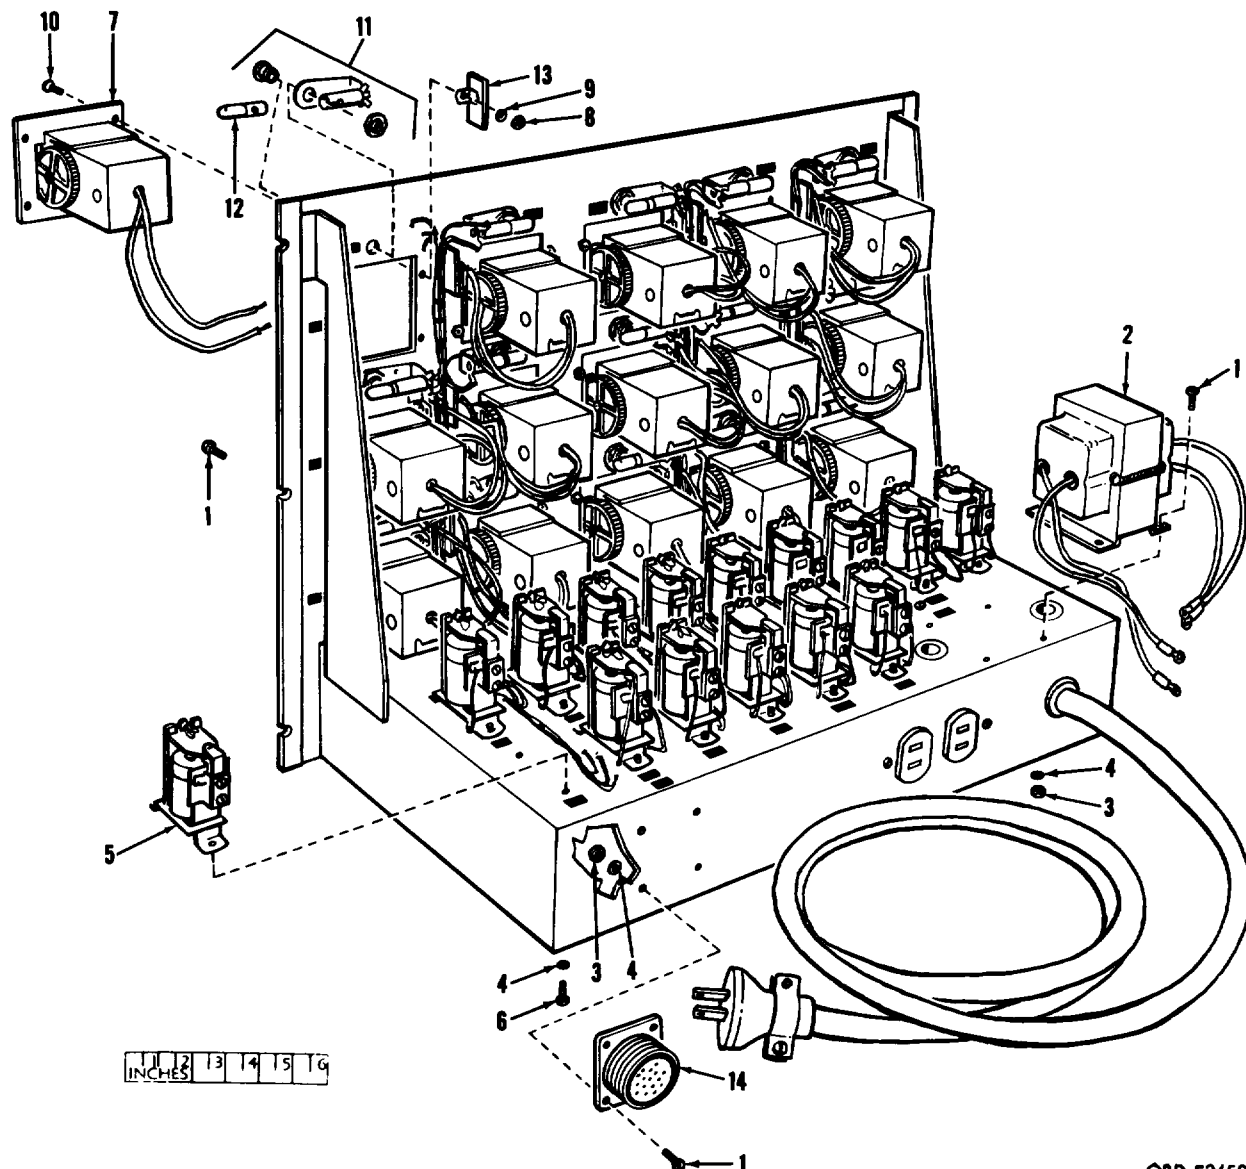

Figure 23. Counter chassis assembly - partial explode
- (15) Remove electrical power cable (18, fig. 23) from counter chassis assembly.
- (16) Disconnect leads from step-down transformer (20, fig. 23) and remove two plain nuts (9, fig. 23), two lockwashers (10, fig. 23), and two machine screws (21, fig. 23). Remove transformer.
- (17) Unsolder leads to metallic rectifier (22, fig. 23) and remove plain nut (9, fig. 23), lockwasher (10, fig. 23), and machine screw (23, fig. 23). Remove rectifier.
- (18) Remove two plain nuts (9, fig. 23), two lockwashers (10, fig. 23), and two machine screws (24, fig. 23) securing door pull (25, fig. 23) to counter chassis assembly.